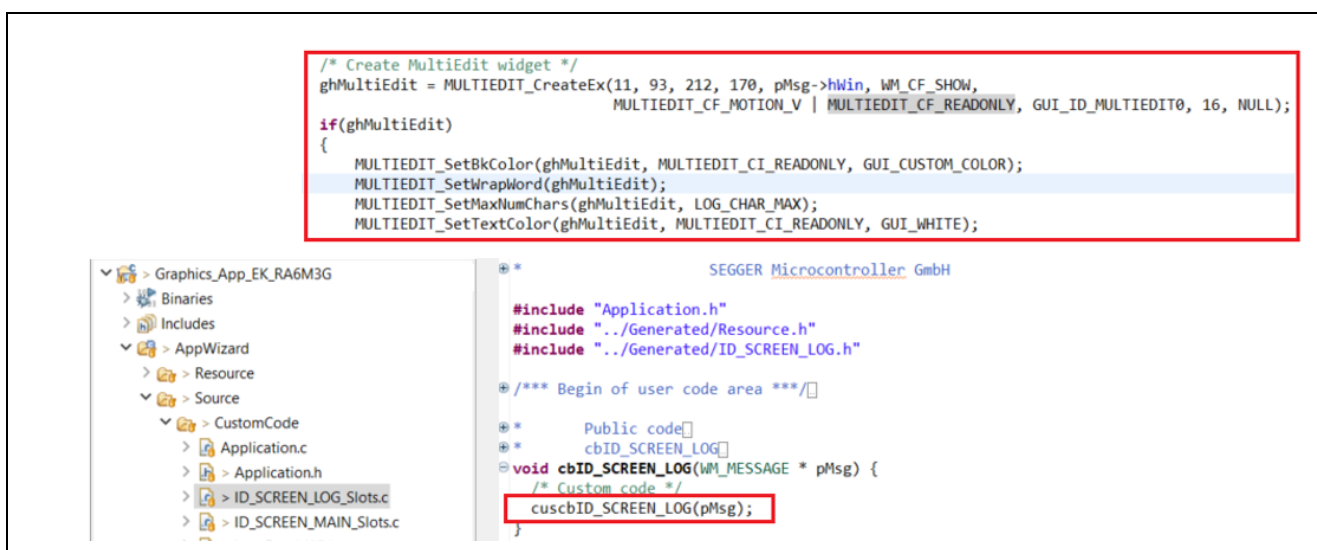

Figure 17. Adding Multiline Text Widget to AppWizard Application by using emWin APIs
- Figure 17 shows the function that creates the Multiline Text widget by using MULTIEDIT_CreateEx API and other APIs.